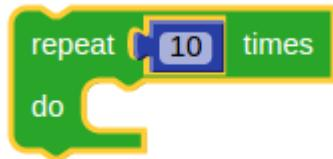

Figure 104: Repeat [] times Block
*Repeat [] times* (Figure 104):